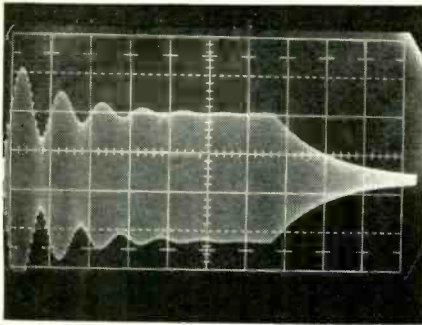

Fig. 8
**FIG. 8—OFF-RESONANCE WAVEFORM** resulting from feeding 4.2-kHz burst into a 4-kHz tank. Ringing on burst has a period of 5 msec whose frequency equals the difference between the tone burst and the excitation frequencies.
Whenever a tuned circuit is excited by a tone burst that is not at its resonant frequency, the results will be something like Fig. 8. The damped ringing has a period that corresponds to the frequency difference between the tone burst and the resonant frequencies. In most cases, this method of measuring how far you